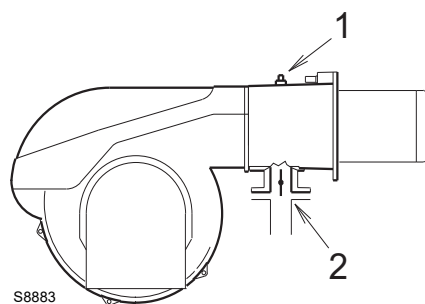

Fig. 25
Gas pressure measured at test point 1)(Fig. 25), with:
Pressure drop at gas butterfly valve 2)(Fig. 25) with maximum opening: 90°.
- subtract the combustion chamber pressure from the gas pressure measured at test point 1) (Fig. 25).
To calculate the required gas pressure at test point 1)(Fig. 25), set the maximum modulating output required from the burner operation:
- Read, on the right (column 1), the pressure at the test point 1) (Fig. 25).
pressure required at test point 1)(Fig. 25).